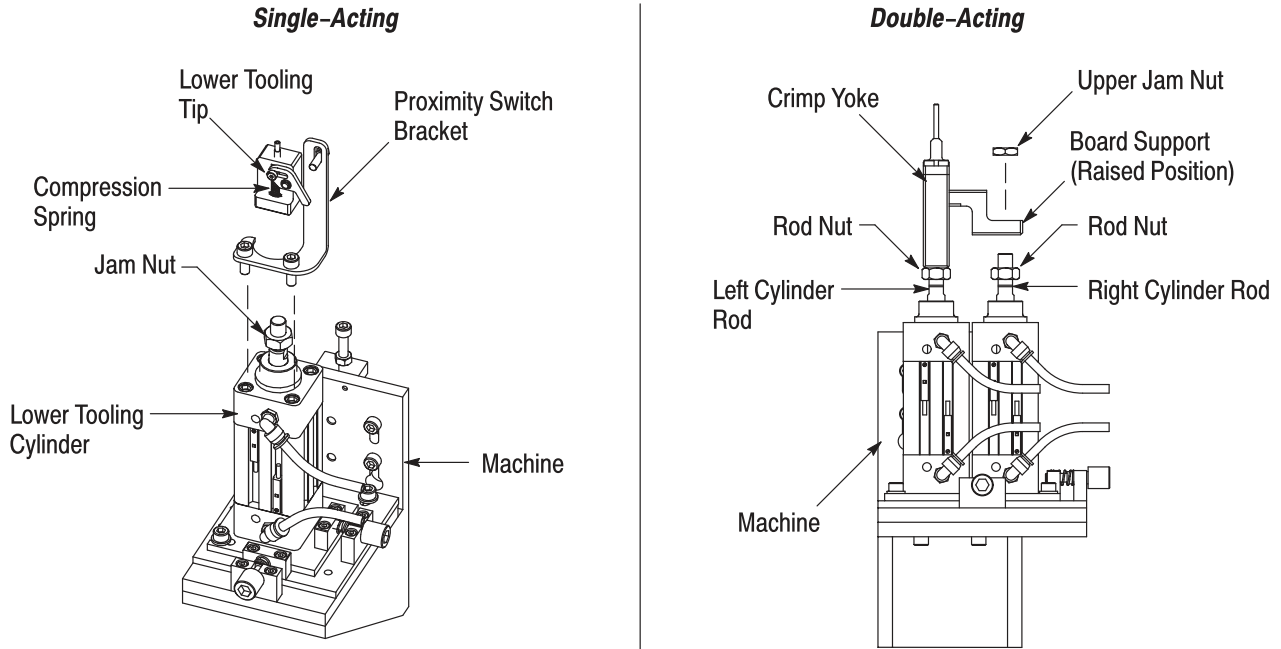

Figure 7
3.3. Installing Lower Tooling Tip onto Machine (See Figure 7)
- Align the lower tooling tip with the proximity switch bracket as shown in Figure 7, then tighten the jam nut onto the cylinder shaft to lock the lower tooling tip into position.
- Using the hardware, attach the proximity switch bracket to the lower tooling cylinder as shown in Figure 7.
3. Remove the hardware, then remove the proximity switch bracket from the lower tooling cylinder (refer to Figure 7).